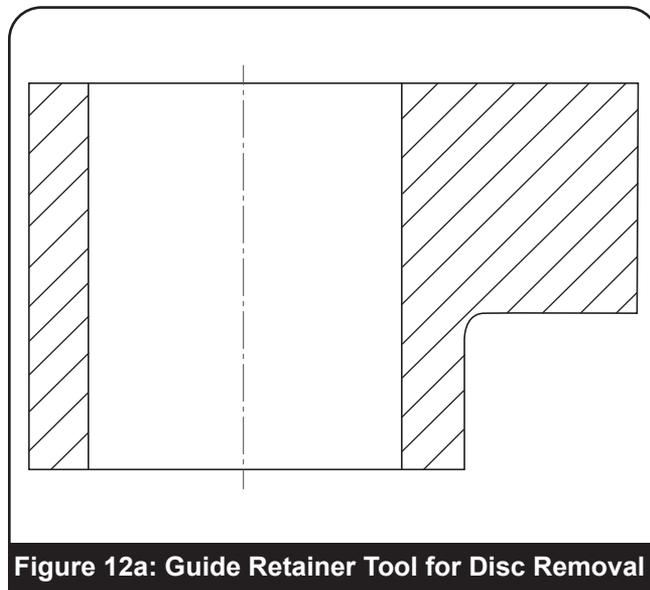
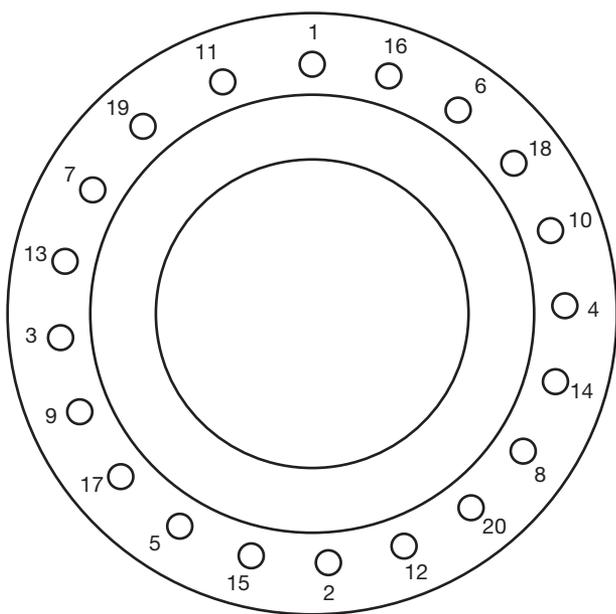

Figure 12a: Guide Retainer Tool for Disc Removal
Figure 18a: 20 Bolt Sequence
1. Remove bonnet stud nuts (23) from studs (22).
2. Using a sling through the three eyebolts (26), Lift Bonnet (19) vertically taking care not to bind bonnet against stud bolts.
4. Remove the Disc Spring (56) and Disc Spring Ring (57).
5. Fasten down Guide (8) with two Guide Retainer Tools for disc removal, (Figure 12a), held in place with two stud nuts, 180° apart. (Baker Hughes Part No. 4215301). This will hold the guide in place while the disc is removed.
2. Using slings on the Center Post of the Disc (7), lower the disc into the guide. Using the assembly tool shown in Figure 12a in Section XV, force the disc down onto the seat bushing. Remove the tool after the disc is firmly installed.
3. Install the Disc Spring Ring (57) and Spring (56) on the disc.
4. Install a new Gasket (18) in the groove provided on the top of the guide.
5. Using slings through the eyebolts, lower the Main Bonnet (19) onto the base.
6. Install all Stud Nuts (23) and draw down bonnet evenly. Tighten securely all bonnet stud nuts. See Figures 18a and 18b with Table 6 for torque values.